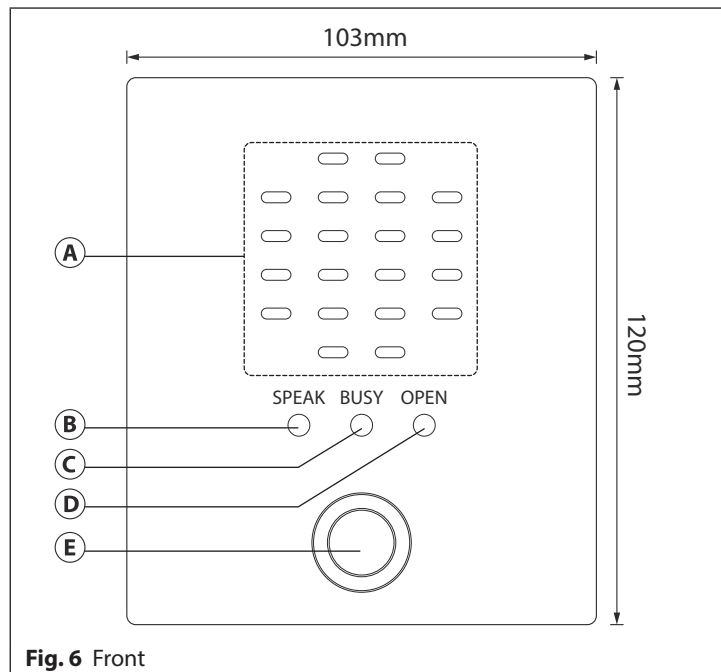

Fig. 6 Front
SPEAK (Yellow)	The speak LED ( Fig.6, ③ ) when illuminated, indicates that it is possible to speak because the call has been answered or a call made to the GSM intercom (with the exception of a call from a dial to open (DTO) number). The LED will switch OFF at the end of a conversation when the telephone/mobile that has been dialled hangs up or at the end of the call time (SPT).
BUSY (Red)	The busy LED ( Fig.6, ④ ) when illuminated, indicates that it is not possible to make a call because a call or a conversation is in progress. The LED will be OFF when the system is in standby. If there is power on the GSM intercom and the Art.434 antenna is not connected this LED will flash continuously until the antenna is connected. The LED will flash while connecting to a network and continue to flash until it has found the network.
OPEN (Green)	The open LED ( Fig.6, ⑤ ) when illuminated, indicates that the door lock (GSM relay) has been operated. It will switch OFF at the end of the programmed "door opening" time. The LED will also illuminate and operate the relay (for the programmed relay, RLT, time) if a programmed key fob is presented to an off board Wiegand proximity reader that is connected to the Wiegand reader input connections.